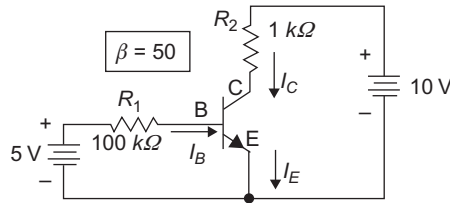
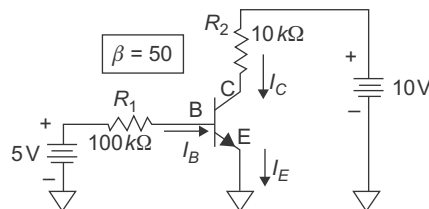

Figure 4.4
Figure 4.7
Armed with only this much information about the NPN transistor, we can analyze the circuit of Figure 4.4.
Let's return to the circuit of Figure 4.4, but this time, let's change the value of R_2 to $10\text{ k}\Omega$. The circuit is shown in Figure 4.7.
The circuit of Figure 4.4 with R_2 at $10\text{ k}\Omega$.
A saturated transistor is one in which there is not enough collector current available to maintain the linear relationship of Eq. 4.1. In the circuit of Figure 4.7, the 10 k Ω resistance of R_2 restricts the current to such an extent that it cannot satisfy Eq. 4.1, no matter what positive voltage between 0 and +10 V V_C might be. Just as we wrote down the conditions for a linearly operating transistor, we can write down the conditions for a saturated NPN transistor:
Let's apply these conditions to the circuit of Figure 4.7. Of course, item 1 on the list is the same as for the linearly behaving transistor, so the base current is found to be the same, $I_B = 43 \mu\text{A}$. However, we won't find the collector current as before, since it is no longer a linear function of base current. Instead, apply the fact that a saturated transistor has a collector-to-emitter voltage of approximately 0.4 V, then use KVL around the right hand loop to obtain:
The answer is: you bet. Most bipolar transistor logic uses saturated transistors. Think about the circuit of Figure 4.7, redrawn in Figure 4.8. When V_{IN} is low (that is, $\sim 0 \text{ V}$) then the transistor is off, since V_{BE} is less than 0.7 V. Since the base current is zero, the collector
When we look at a transistor in a circuit schematic, it's often not obvious whether it will operate in a linear or saturated fashion. So, how can we know? The answer is that it's okay to make a guess about the transistor's state. If you guess wrong you'll know from the nonsensical answers that you get. For example, for the circuit in Figure 4.7, we initially guessed that the circuit operated as a linear device, but we quickly learned that that gave us results which violated our understanding of circuits and transistors.